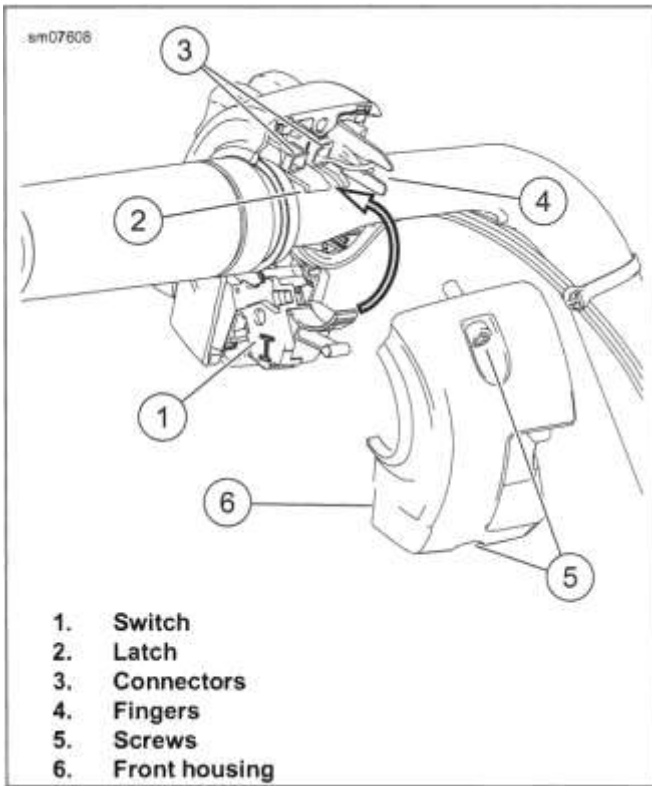

Figure 8-25. Hand Control Module (Typical)
1. See Figure 8-25. Remove housing.
- a. Using a pick, carefully press connector latch (1) down.
4. See Figure 8-25. Release connector latch (2) and rotate switch (1) down.
- b. See Figure 8-25. Route harness through fingers (4).
- c. Connect electrical connectors (3).
See Figure 8-25. Install RHCM on handlebar.
- a. Rotate arm of switch (1) up until it attaches to latch (2).
6. See Figure 8-25. Install front and rear RHCM switch housings.
- b. Install screws (5). Tighten finger tight.